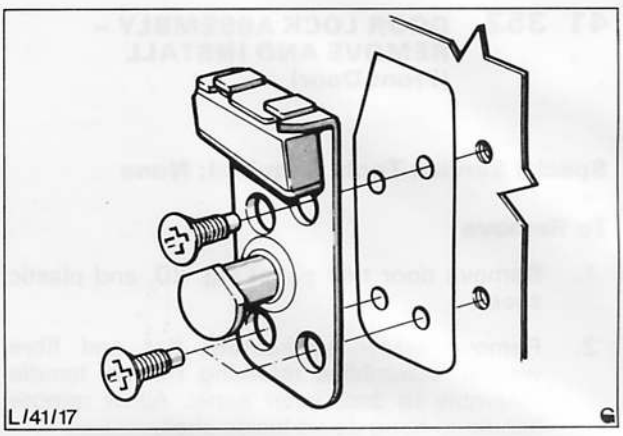

Fig. 23. Door striker plate assembly
1. Open door, mark around striker plate to facilitate reassembly, remove screws and detach plate, Fig. 23.